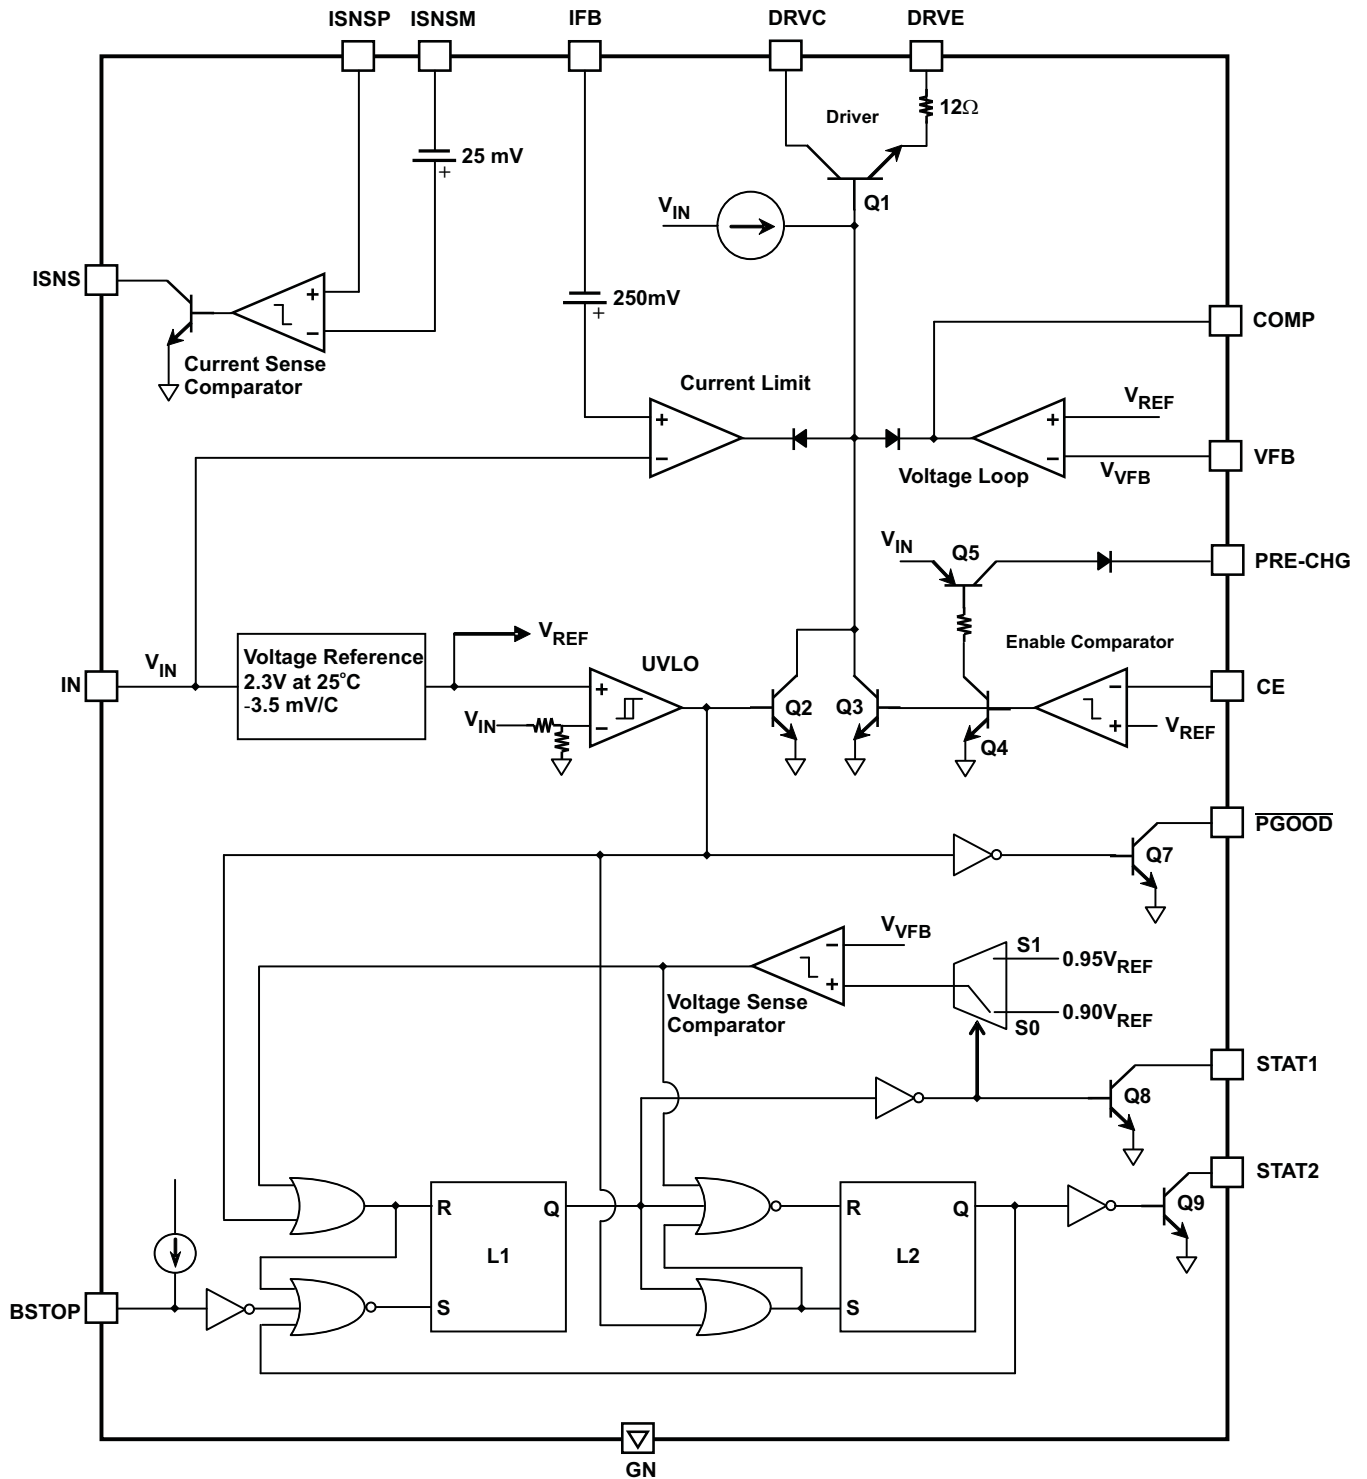
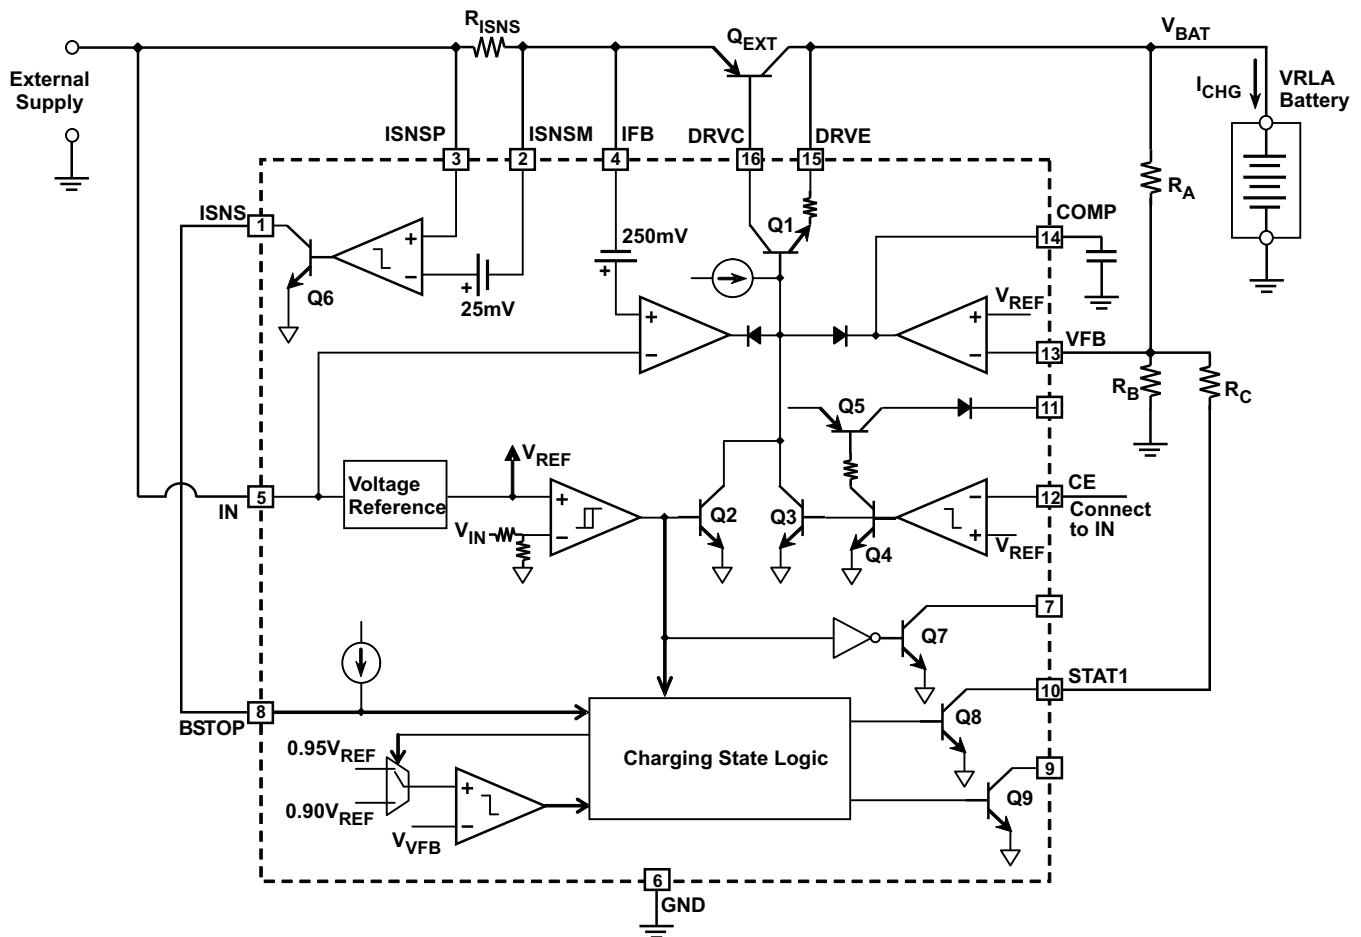
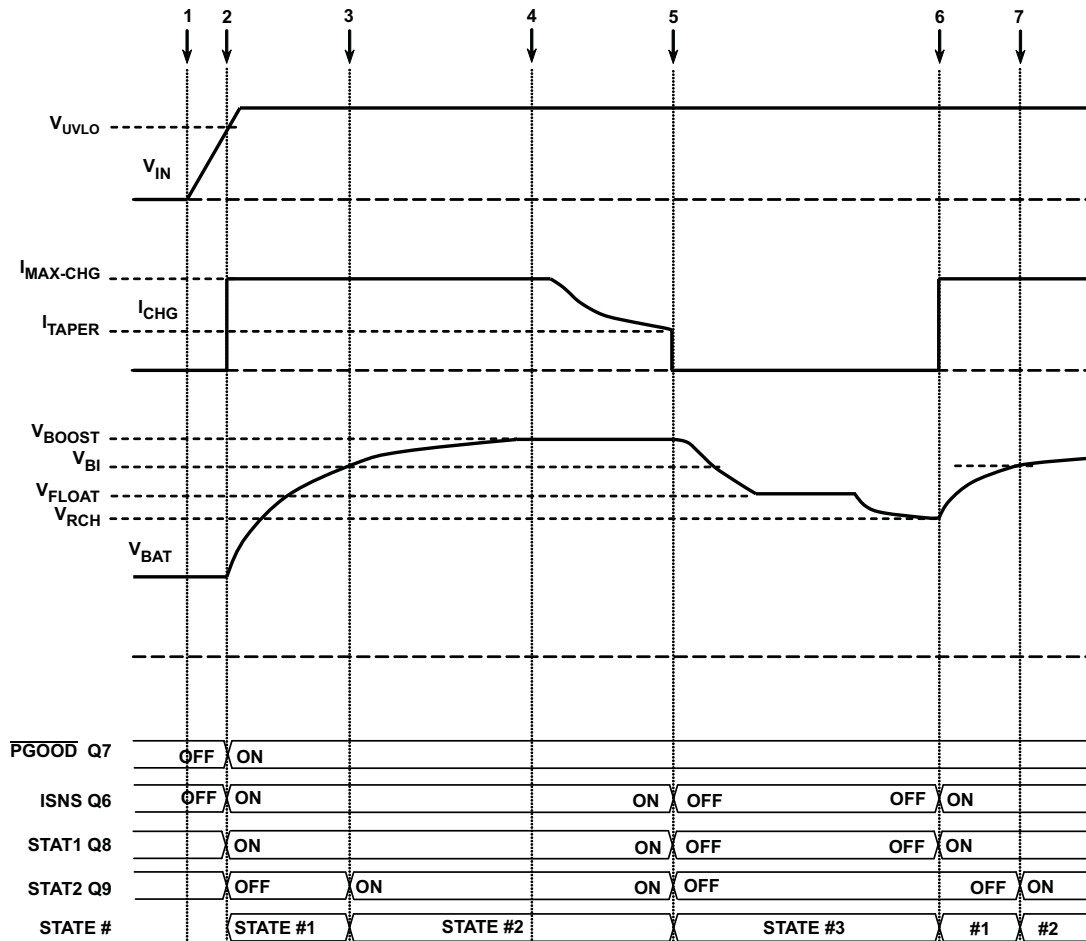

Figure 1. Simplified Block Diagram
Figure 3.
Figure 4.
Only an external pass transistor and minimum number of external passive components are required along with the IC to implement a charger for sealed lead-acid batteries. The IC's internal driver transistor Q1 (see Figure 1) supports NPN as well as PNP pass transistors, and provides enough drive current (25mA specified) to support a wide range of charging rates.
The driver transistor is controlled by a voltage regulating loop and a current limiting-limiting loop (see Figure 1). The current-limiting loop reduces drive when the voltage between the IN pin and the IFB pin increases towards V_{ILIM} (250mV typical). The voltage regulating loop tries to maintain the voltage on the VFB pin at V_{REF} . Together, these two loops constitute a current-limited precision constant-voltage system, which is the heart of any lead-acid charger. The voltage regulating amplifier needs an external compensation circuit which depends on the type of external pass transistor (see Application Information section).
An undervoltage lock-out circuit is also provided (see Figure 1). This circuit disables the driver transistor as long as the input voltage is below UVLO (4.5V typical). The UVLO circuit also drives an open-collector output PGOOD.
Figure 3 shows the bq24450 configured as a simple dual-level float-cum-boost charger. Figure 4 shows the sequence of events that occur in a normal charge cycle. At (1) in Figure 4, power is switched ON. As long as the input voltage V_{IN} is below the undervoltage lockout threshold UVLO, Q2 is ON, disabling the driver transistor Q1. As the input voltage V_{IN} ramps up and rises above UVLO Q2 turns OFF. This enables Q1 and thus the external transistor Q_{EXT} . At the same time, Q7 turns ON, latch L1 is forced to RESET and latch L2 is SET (see Figure 1 for the internals of the Charging State Logic).
As charging proceeds, the voltage at the VFB pin increases further to V_{REF} . At this point, the voltage regulating amplifier prevents the voltage at the VFB pin from rising further, maintaining the battery voltage at V_{BOOST} . [(4) in Figure 3].
As long as the peak load current is less than $I_{MAX-CHG}$, it will be supplied by Q_{EXT} , and the voltage across the battery will be maintained at V_{FLOAT} . But if the peak load current exceeds $I_{MAX-CHG}$, the battery will have to provide the excess current, and the battery terminal voltage will drop. Once it drops below $0.9V_{REF}$, at (6) in Figure 3, a new charge cycle is initiated. The battery voltage V_{BAT} at this point, V_{RCH} , is given by: